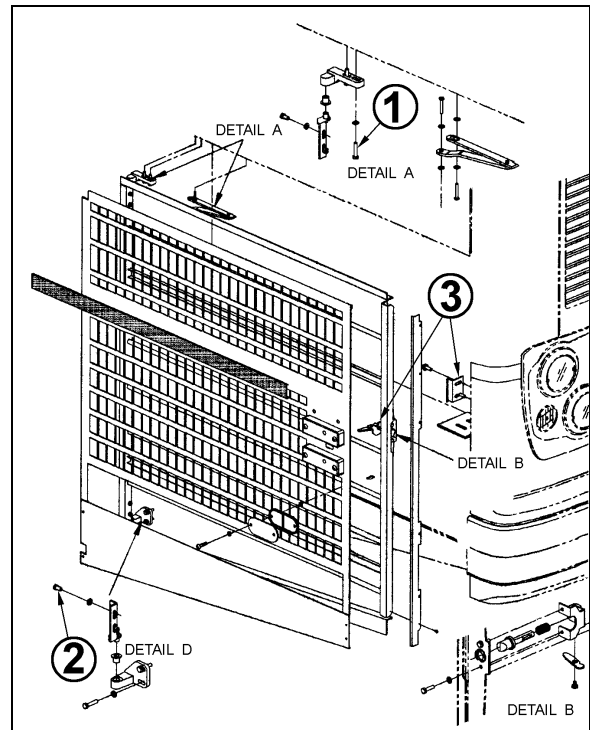

FIGURE 36: RADIATOR DOOR
1. Loosen the bolts, (1, Fig. 36) holding the hinge to the vehicle structure to shift the door "IN or OUT" and "UP or DOWN".
2. Loosening the bolts (2, Fig. 36) allows the door to be shifted "LEFT or RIGHT" and "UP or DOWN".
To adjust the latch mechanism (3, Fig. 36) and the striker pin: